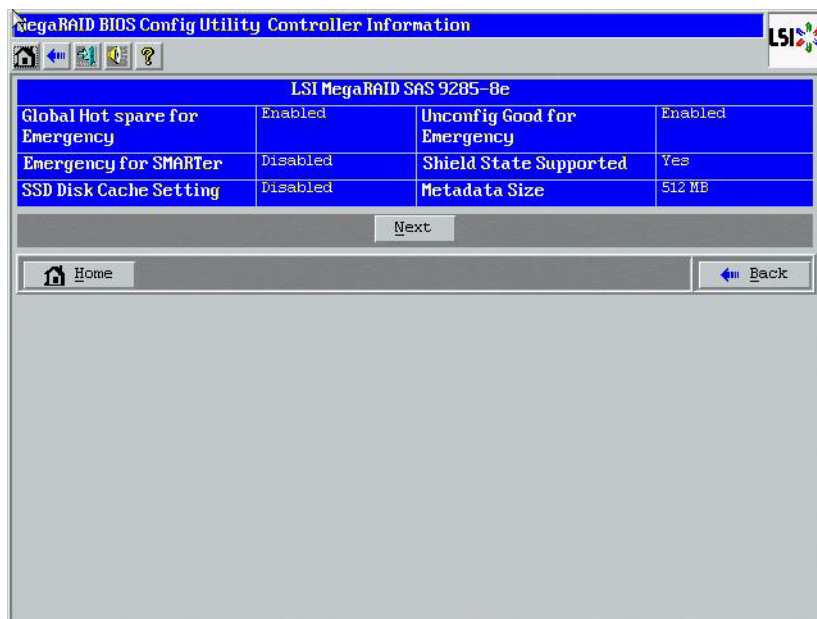

Figure 115: SSD Disk Cache Setting in Controller Properties Dialog
2. Click **Next** to view the controller properties with **SSD Disk Cache Setting** displayed, as shown in Figure 115.